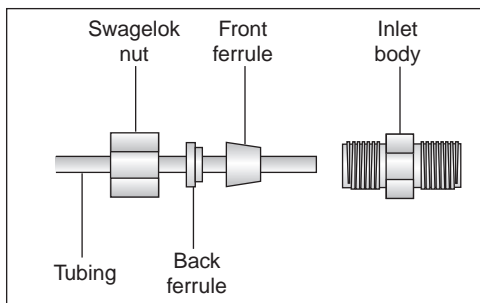

Figure 3-1. Swagelok Ferrule and Nut Assembly
3. Place a front ferrule over the end of the tubing. If you are using tubing smaller than 1/8-in., make sure the tubing extends only 5 mm past the front ferrule. This will prevent damage to the fritted filter inside the inlet manifold. Figure 3-1 shows the proper assembly order.